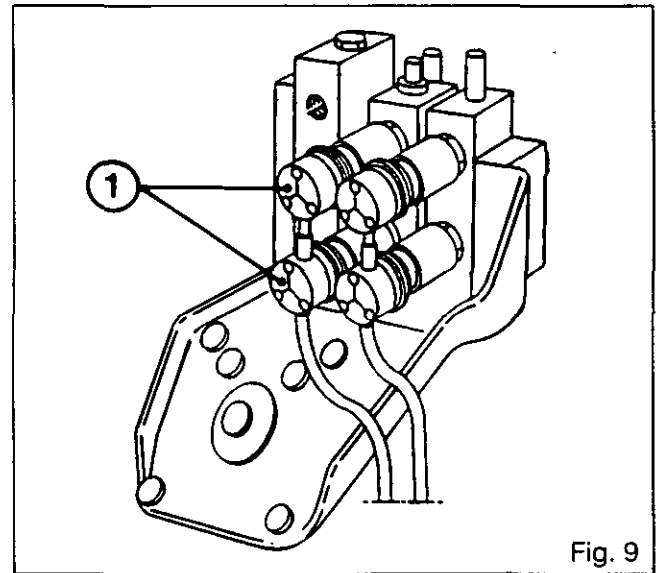

Fig. 9
**Note:** To prevent oil flowing on to the rear of the tractor, oil catchers (1) with pipes have been fitted on to the quick couplers (Fig. 9).